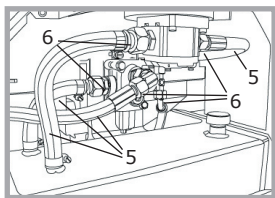

Abb. 5
The hydraulic hoses (5) and all connection points (6) on the hydraulic system must be inspected to detect any potentially leakage and to eliminate them (see Fig. 5).